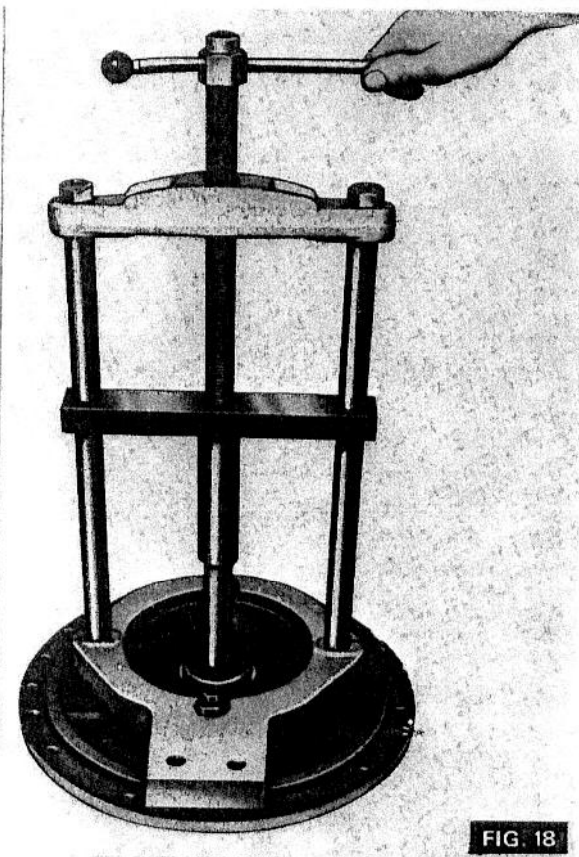

FIG. 18
2. (Fig. 18) Remove the bearing cone using tool MF 100 and 200 - 3.